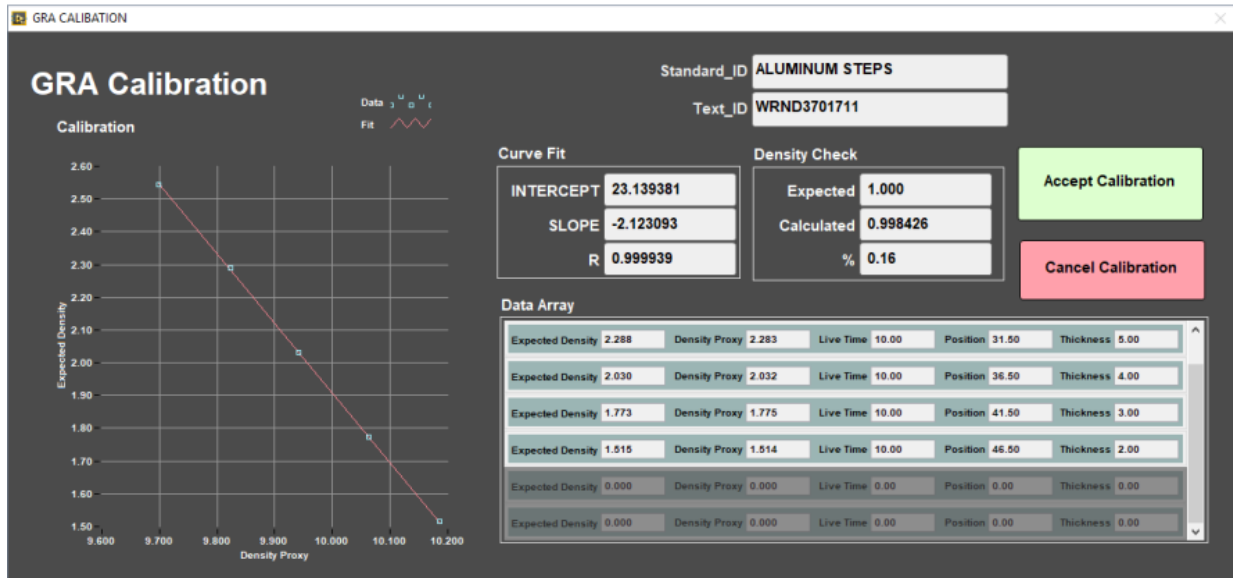

Figure 11. GRA Calibration window.
4. After the standard is measured, the calibration data displays in the graph along with the calibration line (Figure 11).